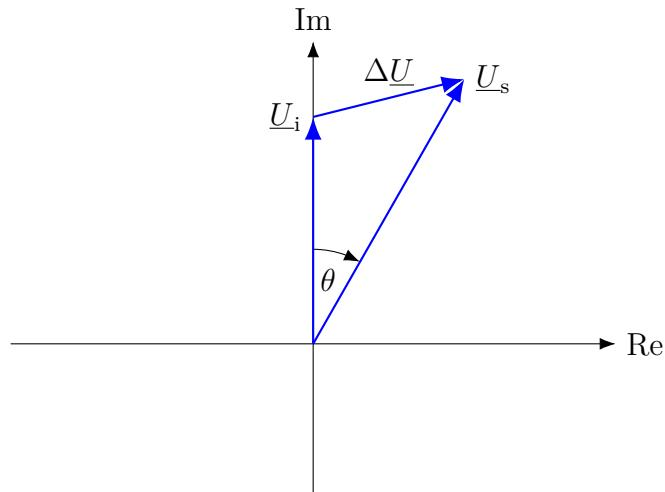

Fig. 3: Phasor diagram of a synchronous machine with scaling 1 kV = 1 cm and 1 kA = 1 cm.
A four-pole synchronous machine operates as a generator in a power plant and supplies 17 MW of active power to the power grid. The grid frequency is 50 Hz. The stator ohmic winding resistance of the synchronous machine is negligible and the excitation current is set to a constant value of 100 A. Fig. 3 shows the phasor diagram of the synchronous machine at a given operating point.
4.2 Determine the short-circuit current I_{sc} and add its phasor \underline{I}_{sc} to Fig. 3. [2 Points]
4.4 Determine the stator current I_s , the phase shift angle φ between stator current and voltage, and add the phasor I_s to Fig. 3. [3 Points]